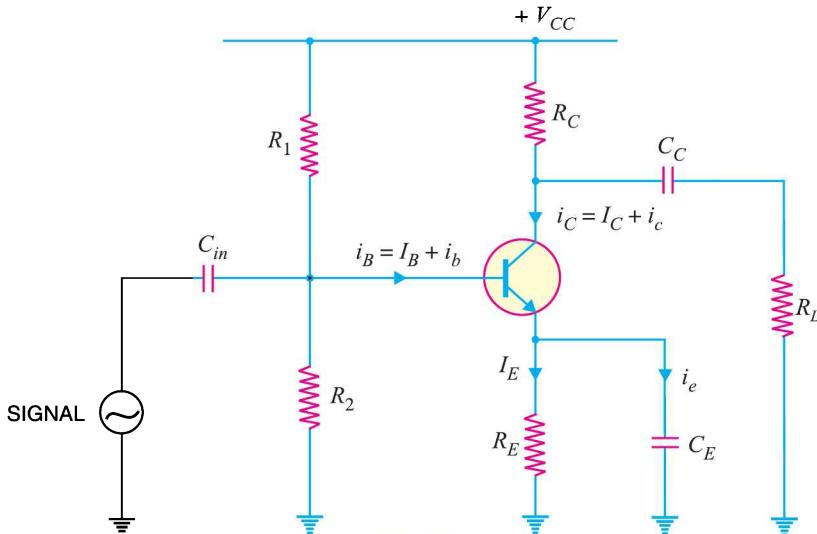

Fig. 10.8
In a transistor amplifier, both d.c. and a.c. conditions prevail. The d.c. sources set up d.c. currents and voltages whereas the a.c. source (*i.e.* signal) produces fluctuations in the transistor currents and voltages. Therefore, a simple way to analyse the action of a transistor is to split the analysis into two parts viz. a d.c. analysis and an a.c. analysis. In the d.c. analysis, we consider all the d.c. sources at the same time and work out the d.c. currents and voltages in the circuit. On the other hand, for a.c. analysis, we consider all the a.c. sources at the same time and work out the a.c. currents and voltages. By adding the d.c. and a.c. currents and voltages, we get the total currents and voltages in the circuit. For example, consider the amplifier circuit shown in Fig. 10.8. This circuit can be easily analysed by splitting it into *d.c. equivalent circuit* and *a.c. equivalent circuit*.
Applying these two steps to the circuit shown in Fig. 10.8, we get the d.c. equivalent circuit shown in Fig. 10.9. We can easily calculate the d.c. currents and voltages from this circuit.
Applying these two steps to the circuit shown in Fig. 10.8, we get the a.c. \*equivalent circuit shown in Fig. 10.10. We can easily calculate the a.c. currents and voltages from this circuit.
**Example 10.4.** For the transistor amplifier circuit shown in Fig. 10.8, determine :
**Solution.** Refer back to the transistor amplifier circuit shown in Fig. 10.8.